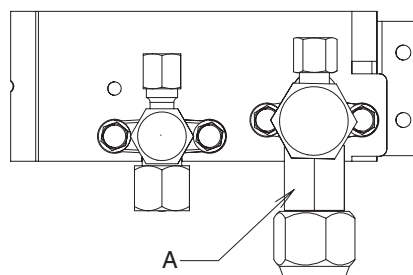

Fig. 4-7
- When removing or tightening the wide tube flare nut, use 2 monkey wrenches together: one at the wide tube flare nut and one at part A. (Fig. 4-7)